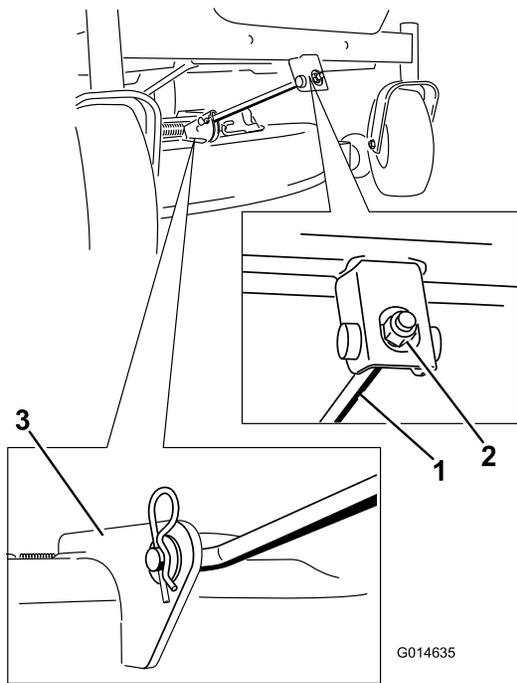

Figure 69
4. Remove the hairpin cotter from the front support rod and remove the rod from the deck bracket (Figure 69).
6. For 60-inch decks, remove the 2 deck-lift springs (Figure 69).
7. Attach the front support rod to the mower deck with the clevis pin and hairpin cotter (Figure 69).